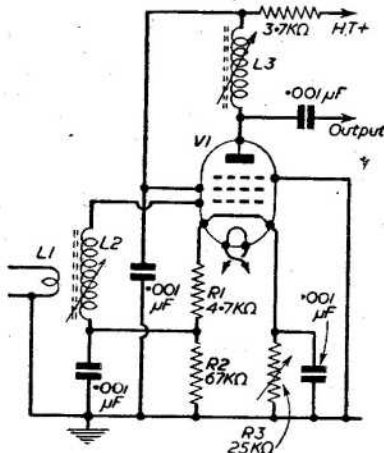

Fig. 1.—A typical first stage signal frequency amplifier showing the method of contrast control.
A typical circuit in this form is depicted by Fig. 1. Now our first consideration is that of bandwidth; the reason for this is clearly shown in a recent article (see "Picture Definition," PRACTICAL TELEVISION, September, 1952), and it can be shown that the circuit capacitance and resistance is closely linked with this. The grid coil L2 is, of course, tuned to a frequency between the sound and vision signals, and this frequency let us denote f_0 . Now the bandwidth of the circuit is the frequency spectrum between where the response would fall 1db at a frequency higher than f_0 , say f_h , and where the response would fall 1db at a frequency lower than f_0 , say f_l , this is made clear by Fig. 2, showing the bandwidth equal to $(f_h - f_l)$. If we denote the ratio of response at f_0 to that of f_h or f_l by r , then, we can use a formula connecting the overall bandwidth to the circuit capacitance (C) and resistance (R), or:—
In practice the suppressor grid needs more bias than the control grid in a ratio of about 12 : 1. This is easily provided by the inclusion of a potential divider across the cathode circuit, the tapping of which is taken to the "cold" end of the grid coil, while the suppressor grid is returned direct to the earth line (see Fig. 1). In this way the control grid is less negative than the suppressor grid, where the negative potential applied to the control grid is:—